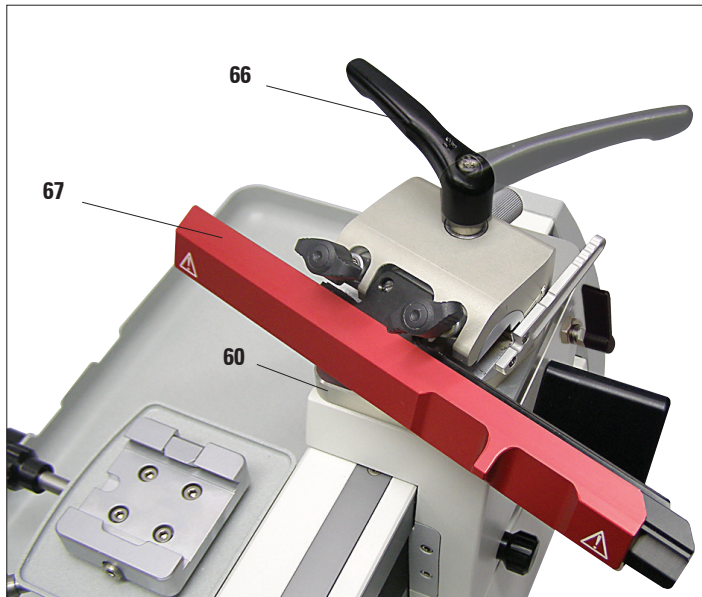

Fig. 12
- Continue turning the clamping lever (66) in a clockwise direction until the knife holder is firmly screwed on (Fig. 12).
The clamping lever (66) has a plastic handle that can be turned into whatever position is best. To do so, pull the handle upwards and turn it into the desired position (Fig. 12). It will then lock automatically when released.